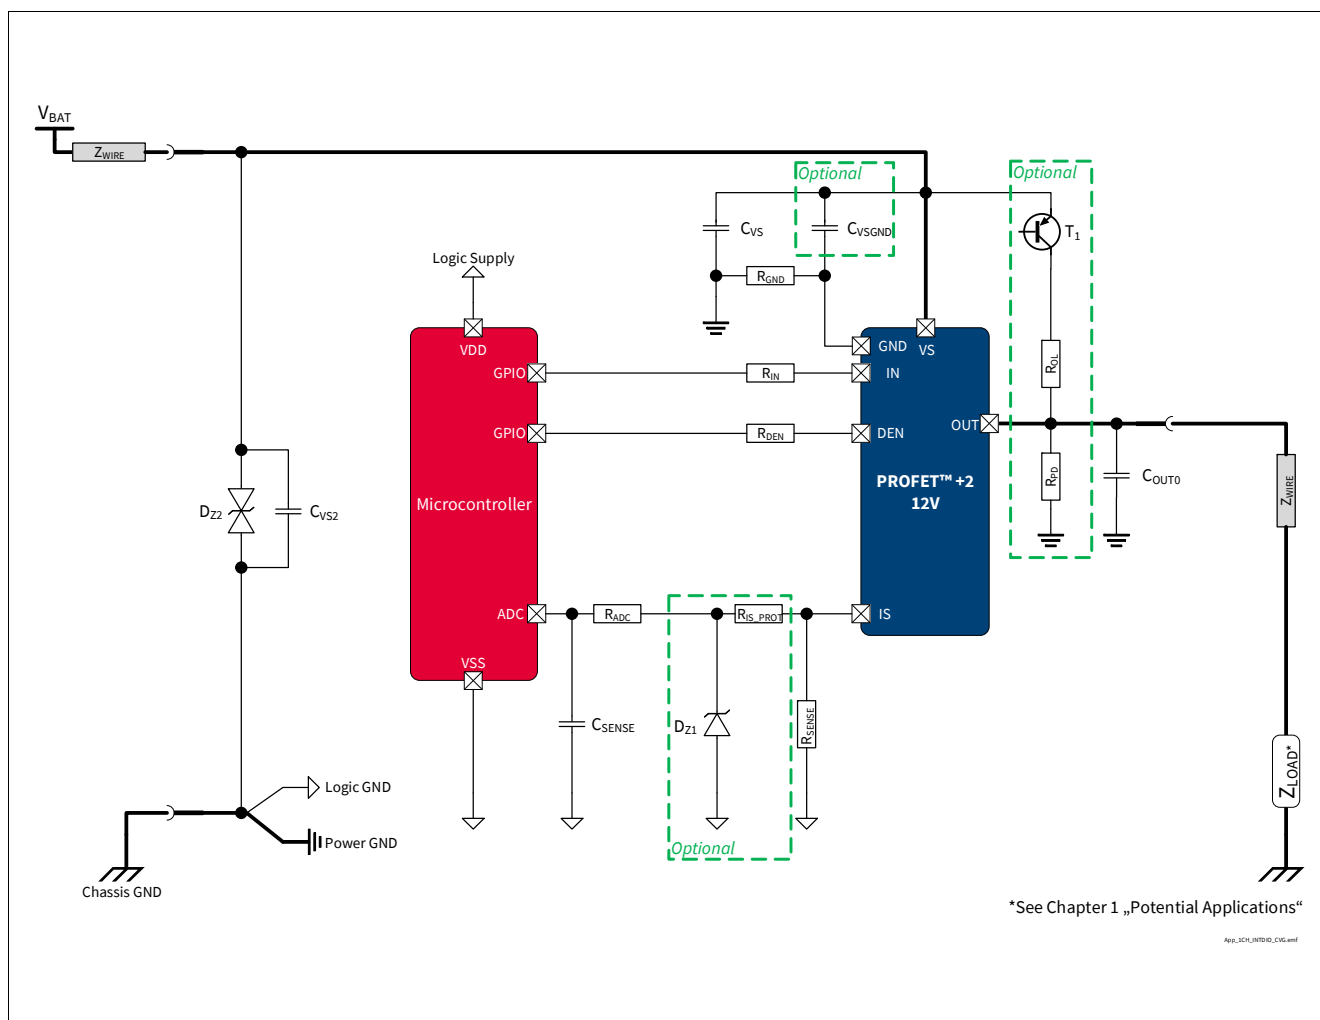
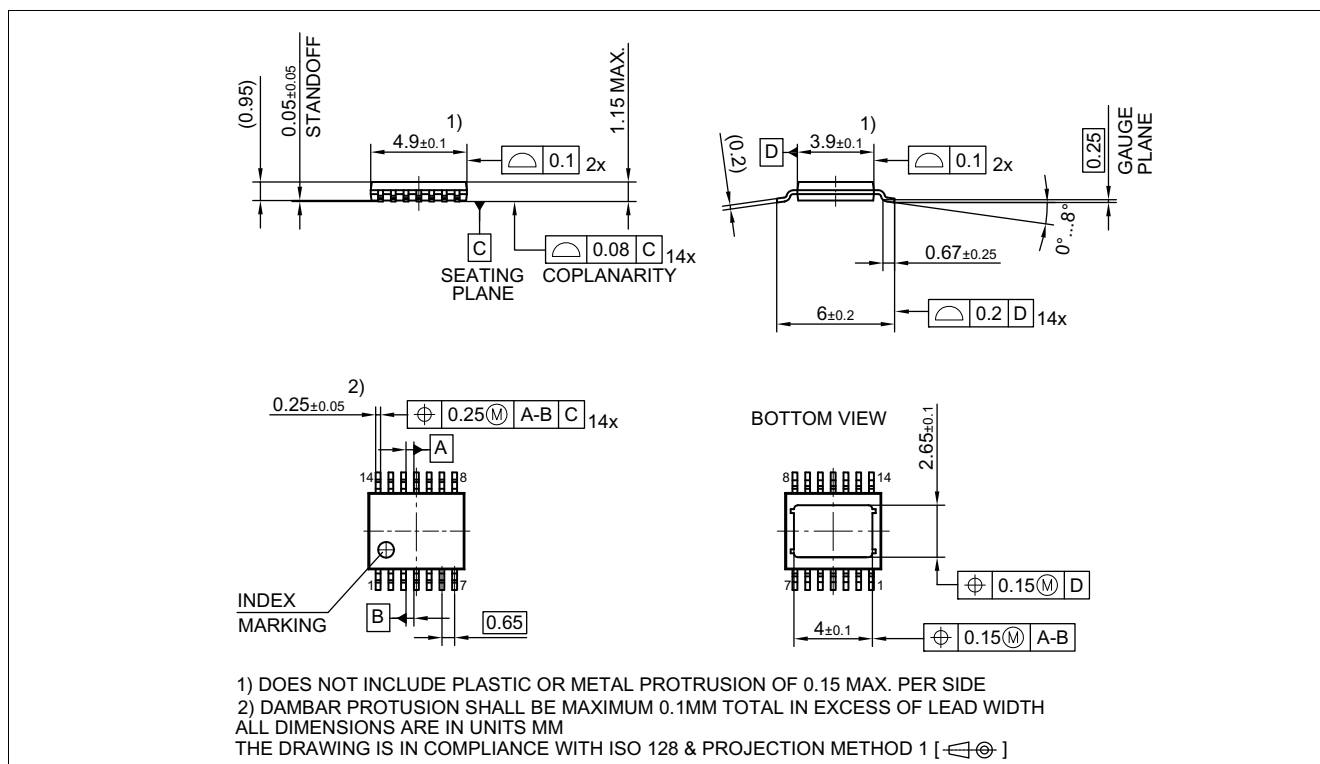
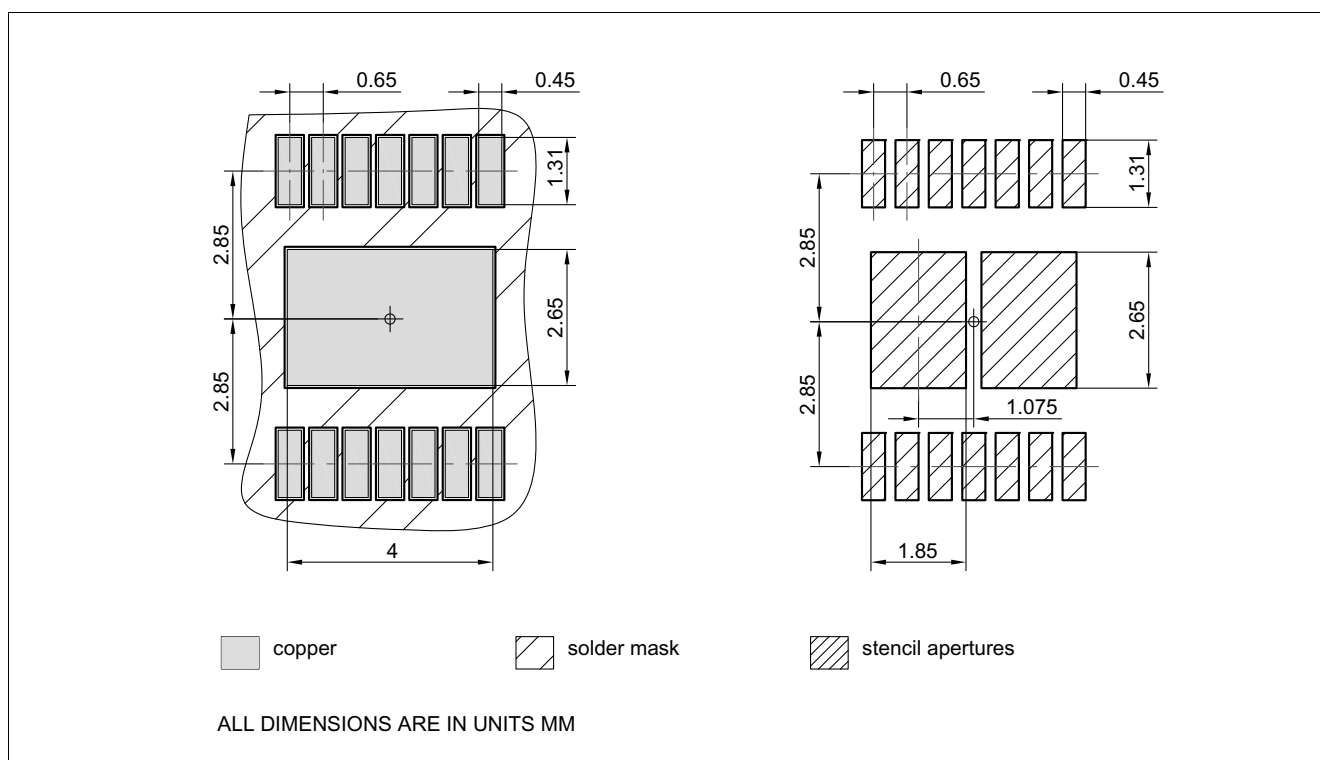

Figure 37 BTS7004-1EPP Application Diagram
Figure 38 PG-TSDSO-14 (Thin (Slim) Dual Small Outline 14 pins) Package Outline
Figure 39 PG-TSDSO-14 (Thin (Slim) Dual Small Outline 14 pins) Package pads and stencil
1.10 , 2020-12-14	Typo fixed (PROFET™+2 → PROFET™ +2) Figure 1, Figure 16, Figure 17, Figure 18, Figure 20, Figure 21, Figure 22, Figure 25, Figure 29, Figure 30, Figure 34, Figure 37 updated Chapter 1, Chapter 6.1, Chapter 6.1.3, Chapter 6.1.4, Chapter 8.2, Chapter 9.2.2 updated Chapter 8.4.1 updated (typo fixed) P_7.4.5.1, P_7.4.5.2, P_7.4.5.3, P_7.4.5.4, P_7.4.5.6, P_7.4.5.7 updated (added in Note or Test Condition: See Figure 15) P_8.6.4.1 updated (added in Note or Test Condition: See Figure 26) P_8.6.4.2 updated (added in Note or Test Condition: See Figure 27) P_9.6.0.6 updated (Parameter: SENSE Operative Range for k_{ILIS} Operation ($V_S - V_{IS}$) → Saturation Voltage in k_{ILIS} Operation ($V_S - V_{IS}$)) P_9.6.0.7 updated (Parameter: SENSE Operative Range for Open Load at OFF Diagnosis ($V_S - V_{IS}$) → Saturation Voltage in Open Load at OFF Diagnosis ($V_S - V_{IS}$)) P_9.6.0.8 updated (Parameter: SENSE Operative Range for Fault Diagnosis ($V_S - V_{IS}$) → Saturation Voltage in Fault Diagnosis ($V_S - V_{IS}$))
1.03 , 2019-10-15	P_6.5.21.1 updated (Typ.: 0.01 μA → 0.05 μA) P_8.7.11.1, P_8.7.11.7, P_8.7.11.8 updated (added in Note or Test Condition: link to Figure 24) P_7.5.11.5 updated (added in Note or Test Condition: see Figure 18) P_7.5.11.12 updated (added in Note or Test Condition: see Figure 20; deleted unnecessary space in Symbol: $dV_{OUT} / dt \rightarrow dV_{OUT} / dt$) P_8.7.11.6 updated (added in Note or Test Condition: see Figure 25) P_9.7.11.1 updated (added in Note or Test Condition: see Figure 32) Figure 1, Figure 37 updated P_4.3.0.7 added Table 22 updated Chapter 5.1 updated (added: see Chapter 10 for the complete application setup overview)
1.01 , 2019-02-05	Figure 9, Figure 10 updated P_7.5.11.10 updated (Min./Typ./Max.: - / - / 10 μA $\rightarrow$ - / - / 15 μA) Page 1: updated (figure product) Table 22 updated (punctuation) Chapter 9.3, Chapter 9.3.1 updated (typo) Page 1: updated (Package PG-TSDSO-14-22 $\rightarrow$ Package PG-TSDSO-14) Figure 38 updated (PG-TSDSO-14-22 (Thin (Slim) Dual Small Outline 14 pins) Package Outline $\rightarrow$ PG-TSDSO-14 (Thin (Slim) Dual Small Outline 14 pins) Package Outline) Figure 39 updated (PG-TSDSO-14-22 (Thin (Slim) Dual Small Outline 14 pins) Package pads and stencil $\rightarrow$ PG-TSDSO-14 (Thin (Slim) Dual Small Outline 14 pins) Package pads and stencil) Table 1 updated (Parameter: Minimum Overvoltage protection ($T_J = 25^\circ\text{C}$) $\rightarrow$ Minimum Overvoltage protection ($T_J \geq 25^\circ\text{C}$)) Table 1 updated (Symbol: $I_{VS(OFF)}$ $\rightarrow$ $I_{VS(OFF)_85}$) P_6.5.21.1 updated (Symbol: $I_{VS(OFF)}$ $\rightarrow$ $I_{VS(OFF)_85}$) P_6.5.21.2 updated (Symbol: $I_{VS(OFF)}$ $\rightarrow$ $I_{VS(OFF)_150}$) P_4.2.11.3 updated (Note or Test Condition: $\rightarrow$ -) Figure Application Diagram, Figure 29, Figure 37 updated P_4.1.0.21, P_4.1.0.22, P_4.1.0.23, P_4.1.0.24 updated (footnote ESD standards) Table 1 updated ($R_{DS(ON)}$ $\rightarrow$ $R_{DS(ON)_150}$), ($V_{DS(CLAMP)}$ $\rightarrow$ $V_{DS(CLAMP)_25}$) Chapter 8.5.2 updated (phrasing) Chapter 6.4, Chapter 7.5, Chapter 8.7, Chapter 9.6 updated (added conditions) Figure 28 updated (Over Load $\rightarrow$ Overload, deleted bow) P_9.6.4.8, P_9.6.4.9 updated (removed line before the footnote)